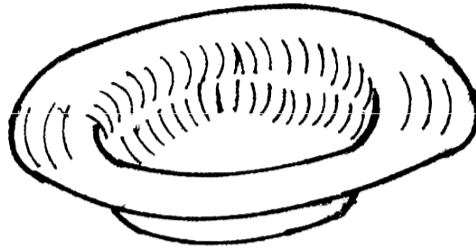

Figure 3
- 4 (a) *Figure 3* shows a dish made of copper and was made by beating down over a wood or metal block.